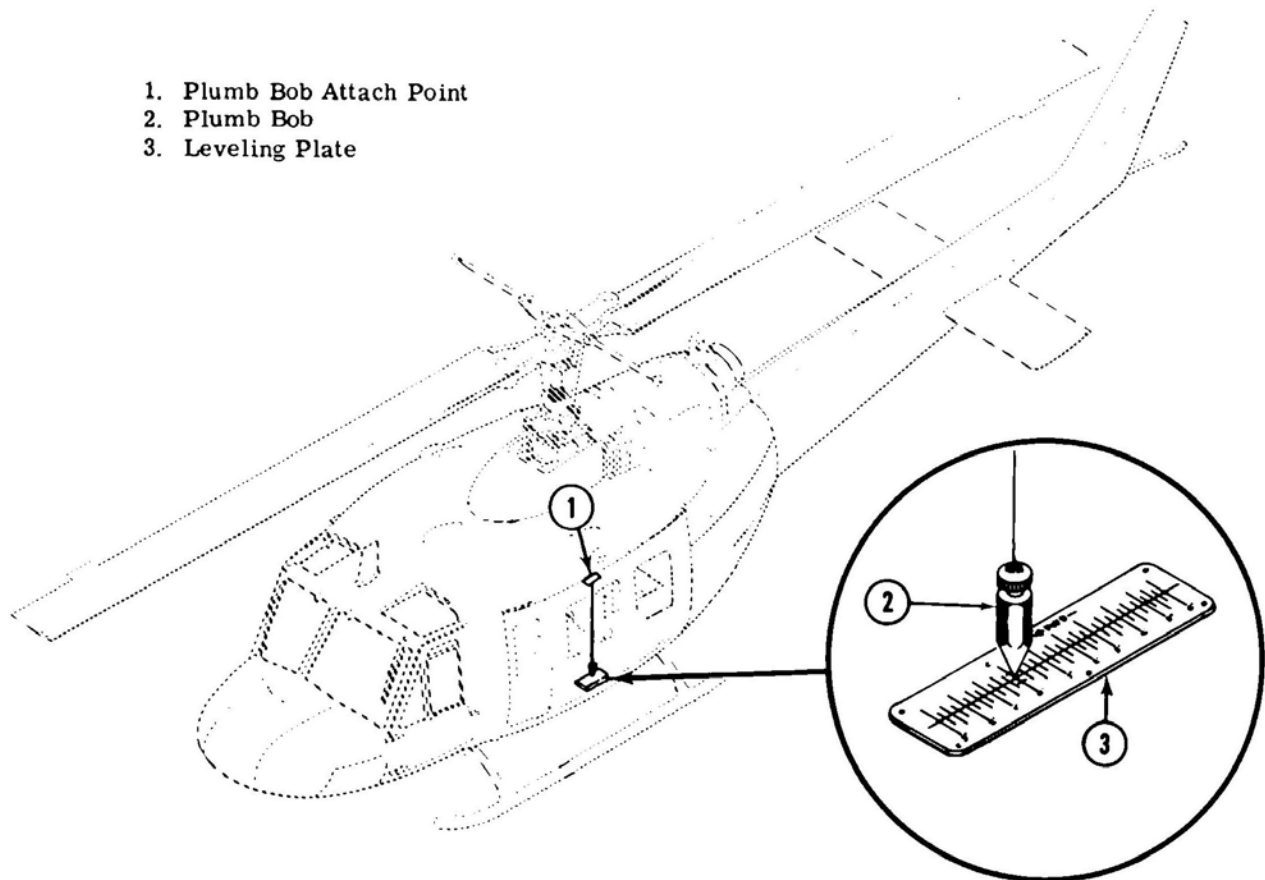

Figure 8-1. Leveling
Leveling plate (2, Figure 8-1) is graduated in increments of 1/4°. The plate is located on cabin floor just inside left passenger cargo door. A slotted hole in upper door frame is provided for suspension of a plumb bob (1).